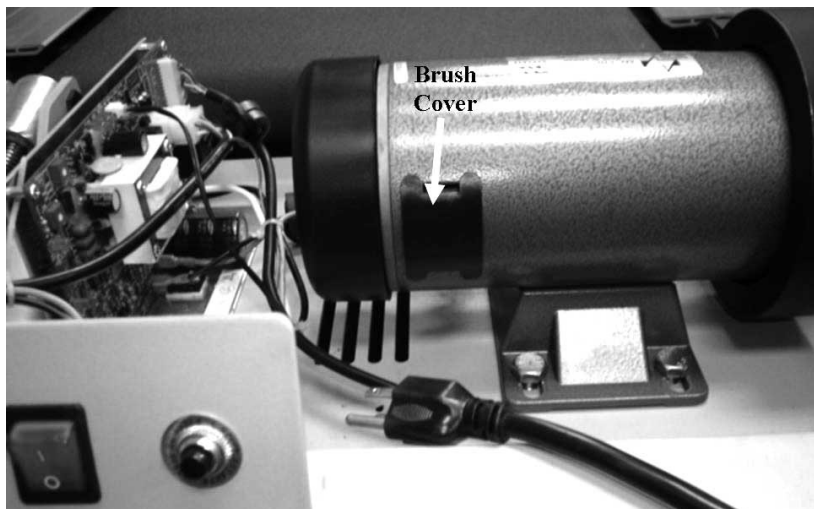

Fig. 9A
- 9.2.1 With the unit unplugged, remove the two brush covers on the sides of the motor (Fig. 9A)